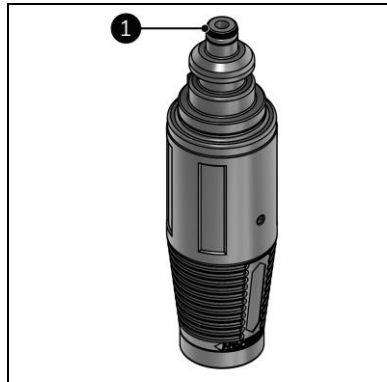

Figure 14
3. Apply Vaseline to the O-ring of the nozzle (Figure 14, pos. 1).